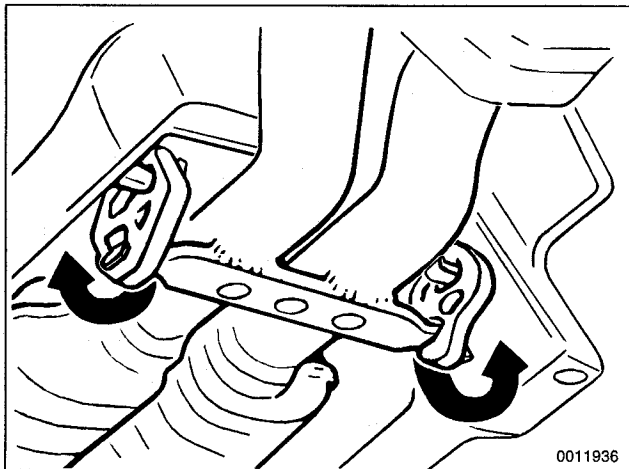

Fig. 7. Rubber exhaust system hangers. Remove hanger by prying off bracket (**arrows**).
6. Support exhaust system from below and disconnect rubber supports/rubber rings from exhaust system. Remove exhaust system from below. See Fig. 7.